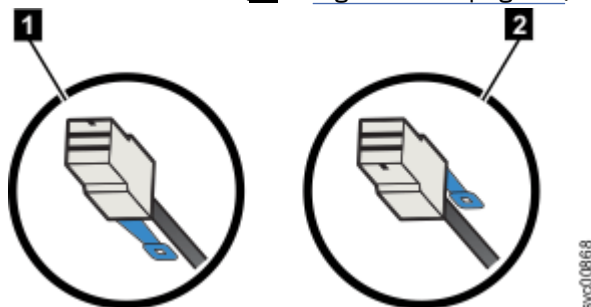

Figure 63. SAS cable connector orientation
When you insert SAS cables, make sure the connector (Figure 63 on page 97) is oriented correctly.
- For FlashSystem control enclosure node canisters and 2U expansion enclosures, the blue pull tab must be below the cable (**1** in Figure 63 on page 97).
- For 5U expansion enclosure canisters, the blue pull tab must be above the connector (2 in Figure 63 on page 97).